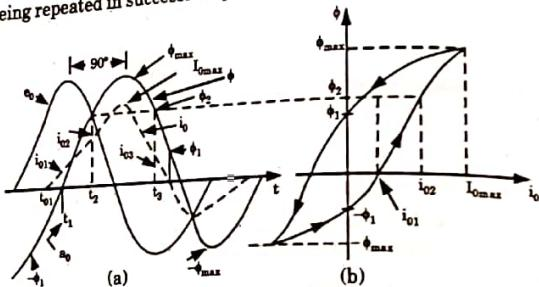

Fig. 4.11.1. Effect of hysteresis and saturation on waveform of exciting current (flux sinusoidal).
- Further the flux must lag the induced emf by  $90^\circ$  as shown in the emf and flux waveform drawn in Fig. 4.11.1.
- After the steady-state obtained, the hysteresis loop of Fig. 4.11.1 is being repeated in successive cycles of  $v_1$ .
- From current wave shape of Fig. 4.11.1, it is observed that it is nonsinusoidal.